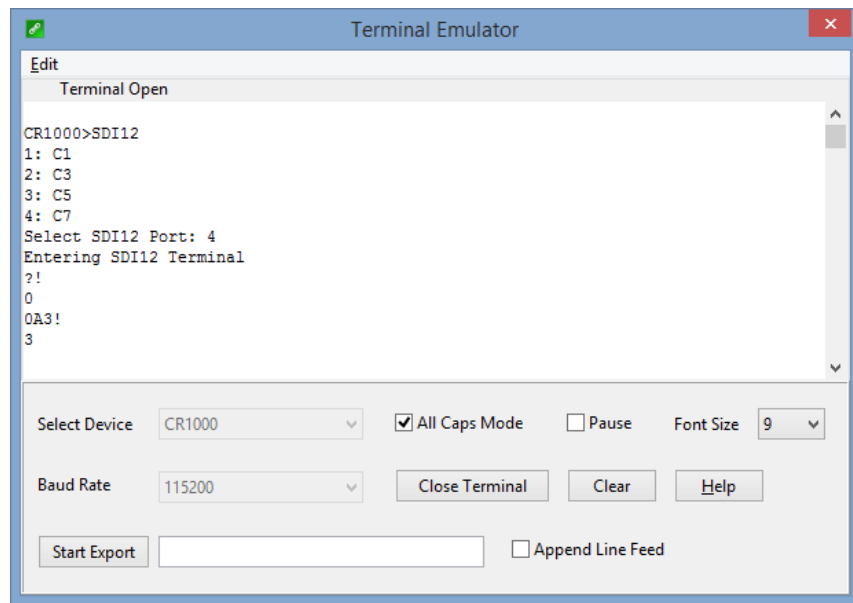

FIGURE D-1. CR1000 example of using the SDI-12 transparent mode to change the SDI-12 address from 0 to 3. Sensor is connected to control port 1.
10. To change the SDI-12 address, type **aAb!**, where *a* is the current address from the above step and *b* is the new address (see FIGURE D-1). Press Enter. The sensor will change its address and respond with the new address.